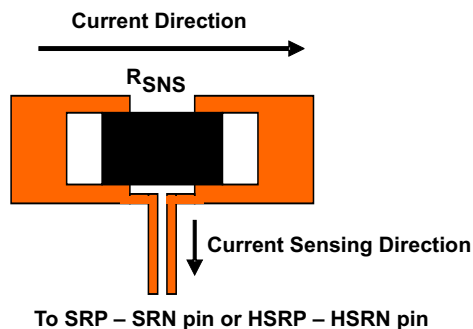

图 13. Sensing Resistor PCB Layout
- area) and do not route the sense leads through a high-current path (see 图 13 for Kelvin connection for best current accuracy). Place the decoupling capacitor on these traces next to the IC.